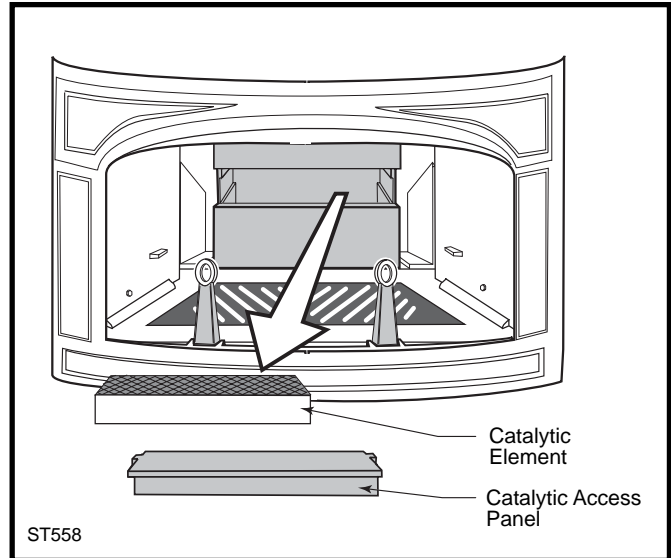

**Fig. 37** Remove the bricks and the brick retainer.
1. Remove the firebricks. Lift off the steel clip and remove the bricks individually. (Fig. 37)
7. Replace the fireback, the five bricks and their clip, the left and right wedges, and the baffle. When you install the lower fireback, be sure to align the two slight recesses in its bottom forward edge *behind* the mating tabs on the firebox floor. (Fig. 37) When you install the wedges, be sure to place their rear vertical edges against the *outermost* left and right edges of the lower fireback, to ensure a good seal between the lower fireback and the stove's outer back. Tap them downward to seat them snugly, but do not overly tight.